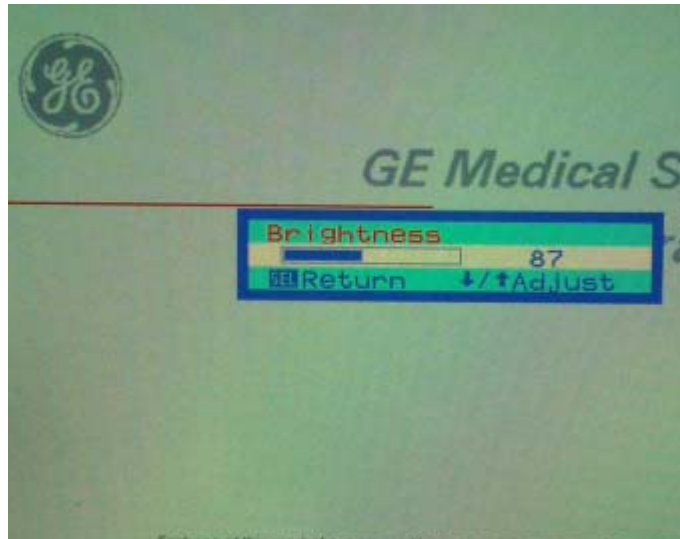

Figure 6-12 Brightness Adjustment
- 6.) Use Increase or Decrease button to adjust the Brightness. Refer to Figure 6-12 on page 6-11 .